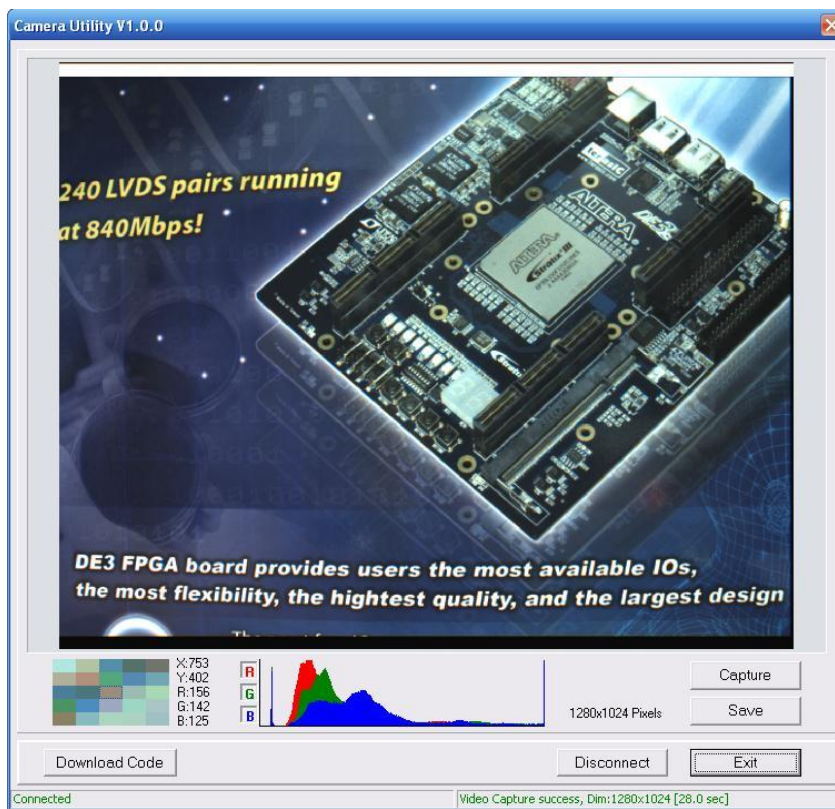

Figure 3-4 The DE2_70_camera tool
12. Users can upload the captured image to PC by clicking the 'Capture' button of the 'DE2_70_CAMERA.exe' as shown in **Figure 3-4**. Meanwhile, the digital camera is set to photo-taking mode. Press **KEY3** to switch back to FREE RUN mode.